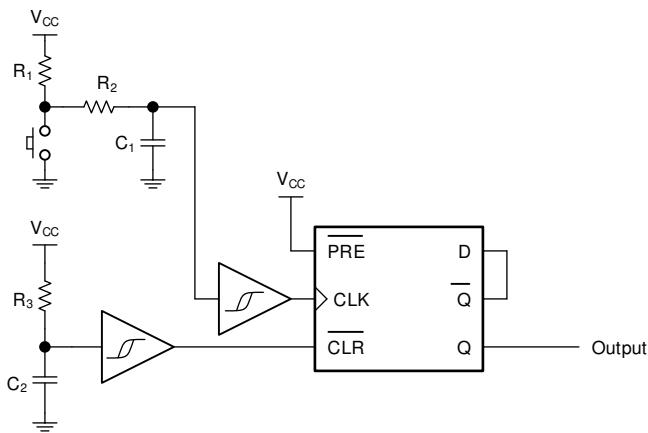

Figure 8-1. Typical Application Block Diagram
Figure 8-1 shows how the SN54SC2T74-SEP is used to up-translate a 1.8-V signal to 3.3 V to drive an LED in this application. The SN54SC2T74-SEP does not limit the output current, so an added output resistor is used to provide the appropriate current limiting. The resistor value (R) should be determined by the LED's forward voltage ( $V_D$ ) and the desired forward current through the LED ( $I_D$ ) using this equation:  $R = (V_{CC} - V_D)/I_D$ .